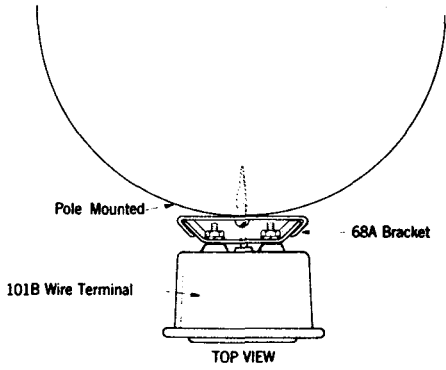

Fig. 10—101B Wire Terminal Mounted on 68A Bracket
4.07 A top view of the 101B wire terminal using a 68A bracket is shown in Fig. 10.